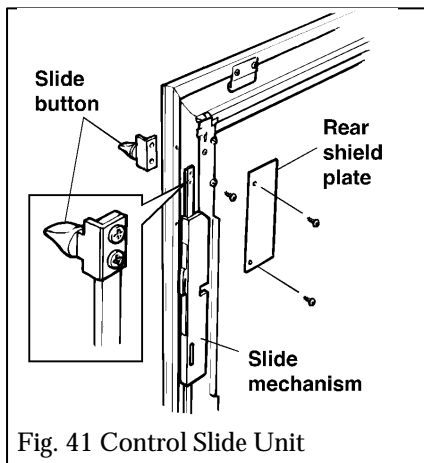

Fig. 41 Control Slide Unit
14.4.2 Detach the rear shield plate by removing two screws from the rear right side of the front surround (See fig. 41).
14.4.3 Remove the two screws securing the slide button to the back of the slide mechanism bar. Raise the button to clear the bar and pull through the slot in the surround side (See fig. 41).